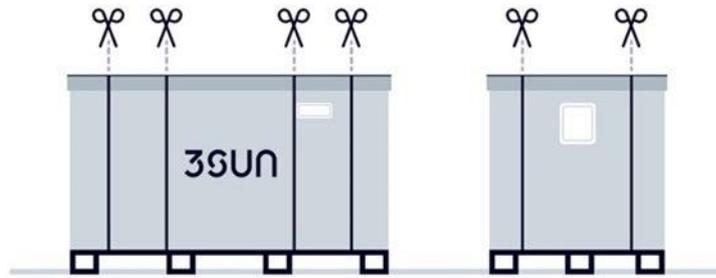

Figure 14: Box internal straps removal order.
- a) Cut the outer box straps (Figure 14).